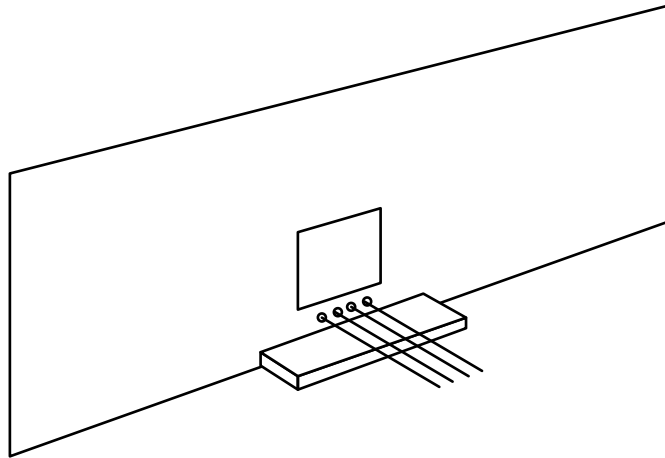

Figure 5-16
- Install the bare wires on the bottom of the front panel PC board, using the four pads below the large rectangular hole (Figure 5-16).